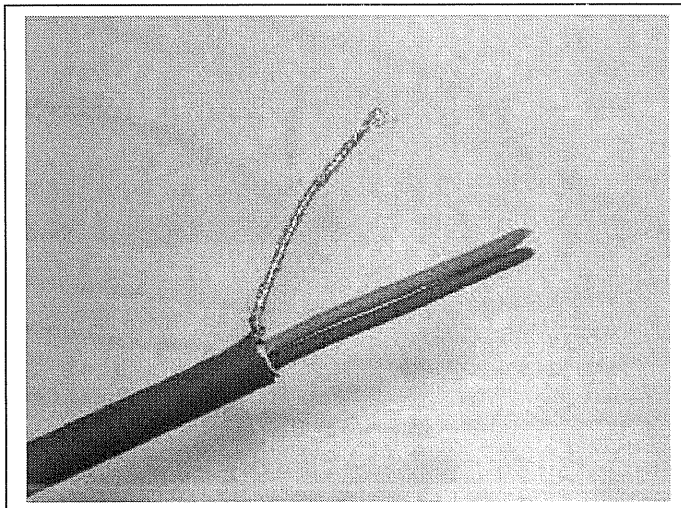

Figure 4-5. Stripping the CANopen Cable
- 2 Strip about 5 cm of the CANopen cable as shown in Figure 4-5. NOTE: Do the same for both bus cables (except for the last device). However, since the grounding shall be done on one cable only, cut off the exposed part of the other grounding cable.
- 1 Strip about 5 cm of the CANopen cable in the same way as shown in Figure 4-5, but cut off the grey cable shield. Remember to do this for both bus cables (except for the last device).